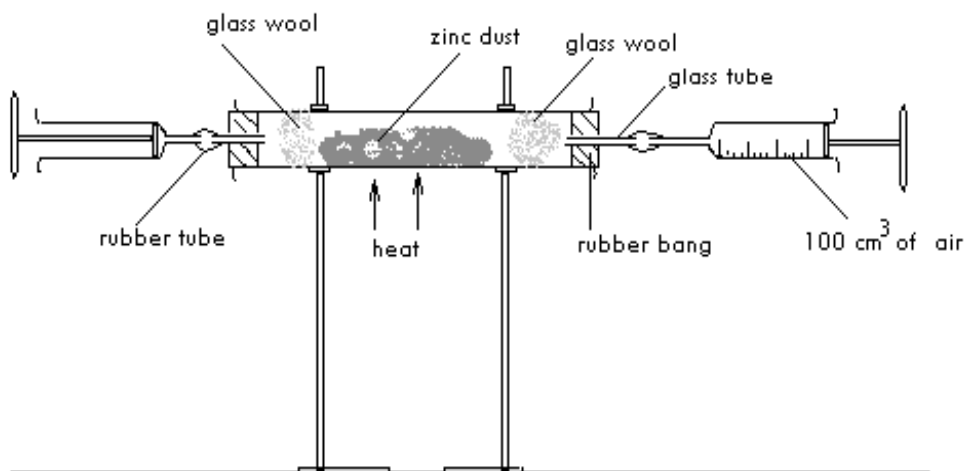

Figure 5.1: Estimating the active part of air
2. Connect the two syringes to the combustion tube as shown in Figure 5.1. The piston in one of the syringes should be at the 100cm^3 mark while that of the other syringe should be at the 0cm^3 mark.